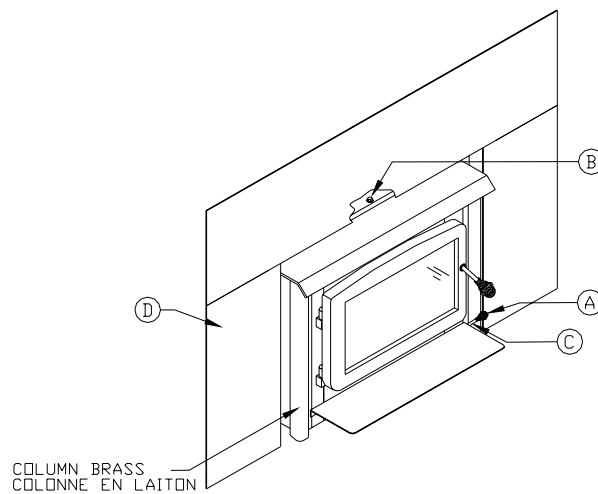

Figure 7
10. Push the air control (A) in, all the way. Slide the adjustable faceplate sleeve back into its original location until the faceplate fits tightly against the fireplace facing. See Figure 7. One 7/16" (11mm) open end wrench should be used to turn the nut (B), located above the cook top in the centre, up so that it securely fastens the adjustable faceplate sleeve to the top air jacket. Take the air control slider spring handle (C) from the firebox and turn it onto the 1/4" diameter (6mm) air control rod (A).